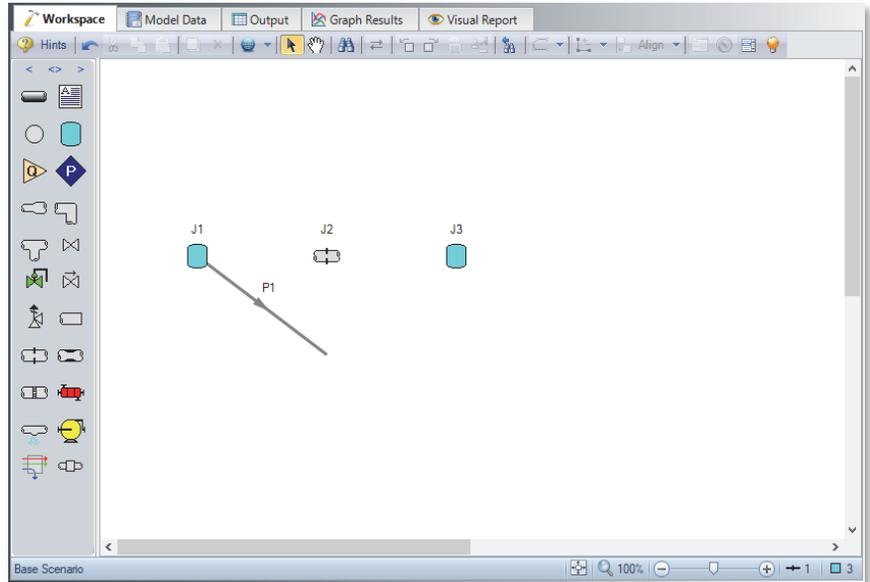
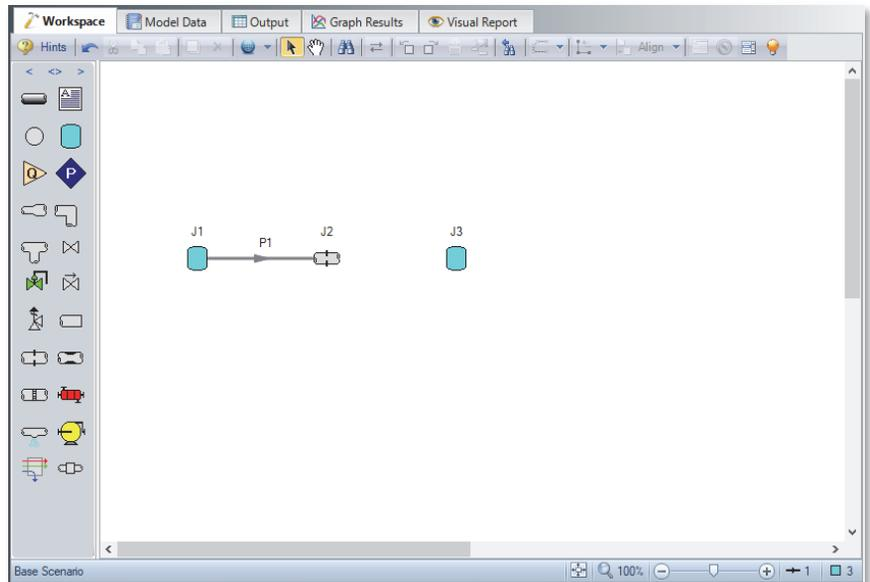

Figure 2.5d Walk through model with first pipe partially connected
Figure 2.5e Walk through model with first pipe connected
- **To place the pipe between J1 and J2**, use the mouse to grab the pipe in the center, drag it so that its left endpoint falls within the J1 Tank icon, then drop it there (see Figure 2.5d). Next, grab the right endpoint of the pipe and stretch the pipe, dragging it until the endpoint terminates within the J2 Orifice icon (see Figure 2.5e).